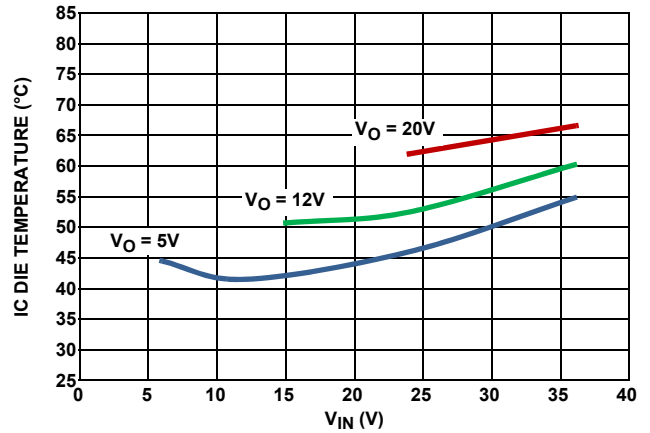

FIGURE 10. IC DIE TEMPERATURE UNDER +25°C AMBIENT TEMPERATURE, STILL AIR, 500kHz, $I_O = 2A$
- From the thermal perspective, the die temperature shouldn't exceed +125°C with the power loss dissipated inside of the IC. Figures 10 and 11 show the thermal performance of this part operating at different conditions.
Figures 10 and 11 show 2A and 2.5A applications under +25°C still air conditions over VIN range. The temperature rise data in these figures can be used to estimate the die temperature at different ambient temperatures under various operating conditions. Note that more temperature rise is expected at higher ambient temperature due to more conduction loss caused by rDS(ON) increase.